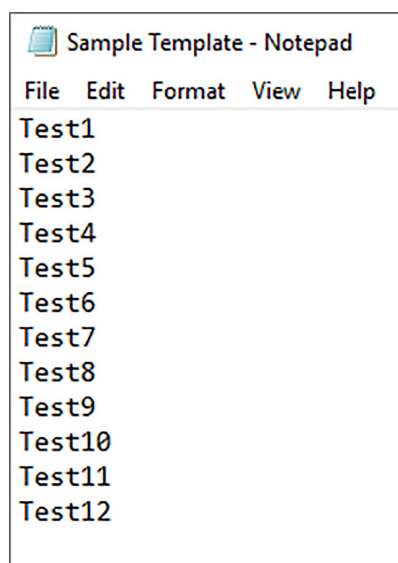

Figure 84 .txt file format (single row of names—no well numbers or row numbers).
- For a .txt file, a single column of sample names is used (**Figure 84**).